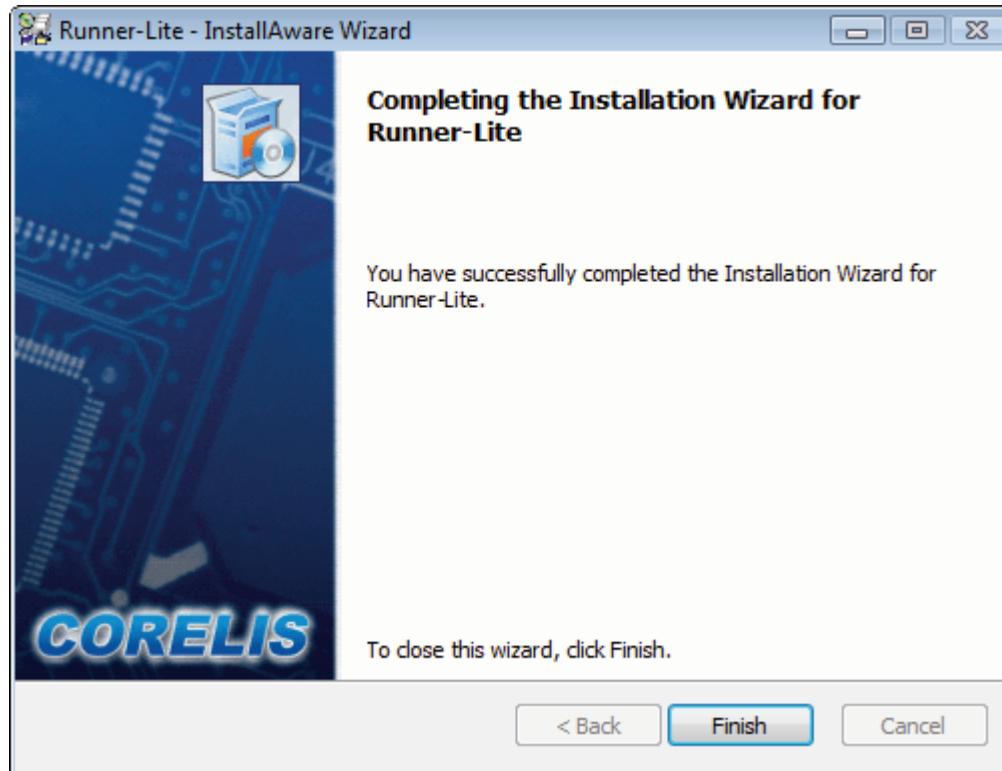

Figure 2-11. Completing the Installation Success Screen
11. The Runner-Lite installer **Completed** screen, as shown in Figure 2-11, will now appear to indicate that the installation is done. Click on the **Finish** button to exit from the installation program. You may be prompted to reboot your computer to complete the installation. If you choose not to reboot your computer now, you must reboot before launching Runner-Lite.